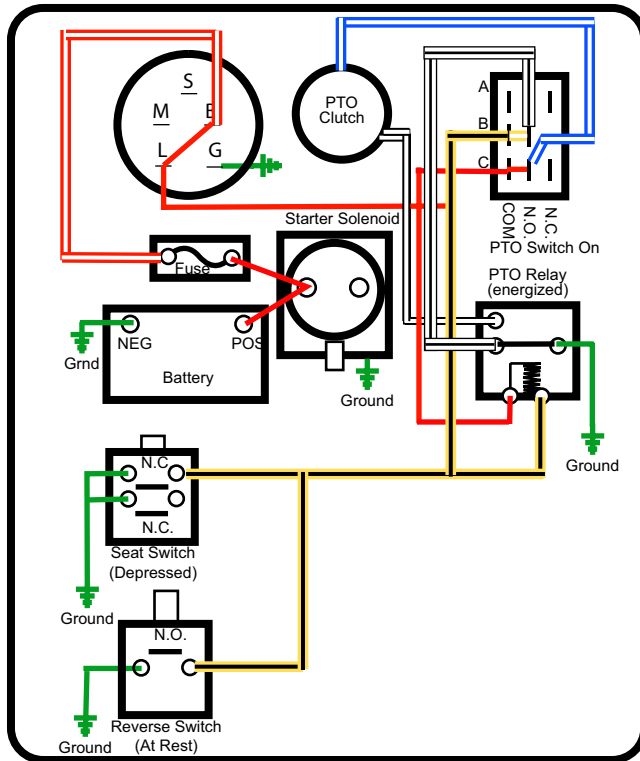

Figure 7.25
3. Once the PTO relay is energized by a ground path through one of the safety switches, it latches. See Figure 7.25.